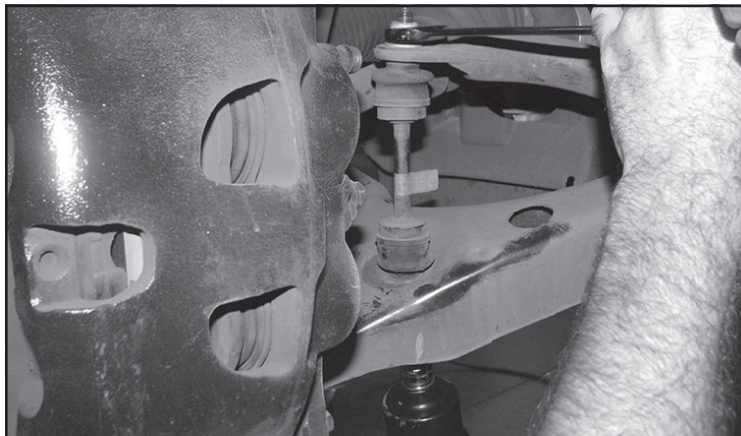

FIGURE 3 - STEP 4
4. Disconnect the factory sway bar end link. Save hardware. **SEE FIGURE 3**